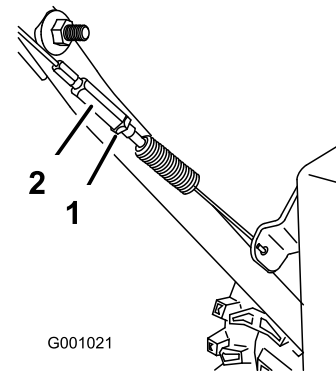

Figure 27
3. Tighten the jam nut (Figure 27).